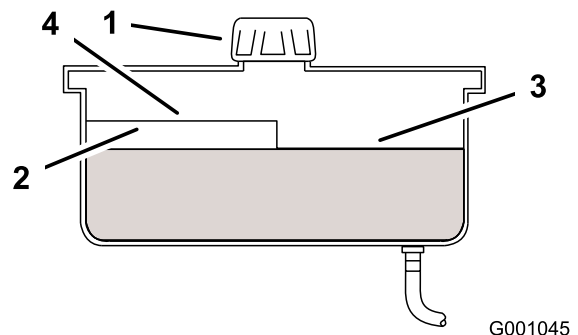

Figure 68
4. Clean area around cap and filler neck of hydraulic tank (Figure 68).
5. Remove cap from the filler neck. Look inside to check the fluid level in the reservoir. (Figure 68).
Note: The fluid level should be to the top of the hot level of the baffle, when the fluid is warm (Figure 68).